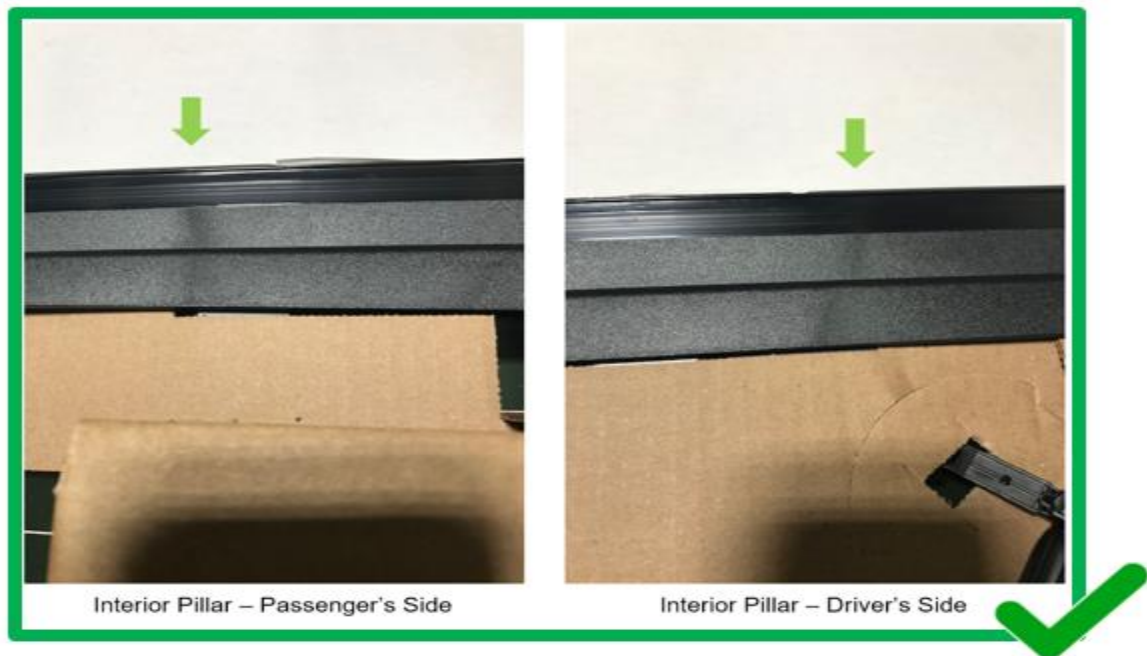

Figure 3 - Backlite Upper Frame KNIT LINES
- If you do NOT feel physical crack, yet still see visible line marking, this is a KNIT LINE due to injection molding process and is a GOOD part. See Figure 3.